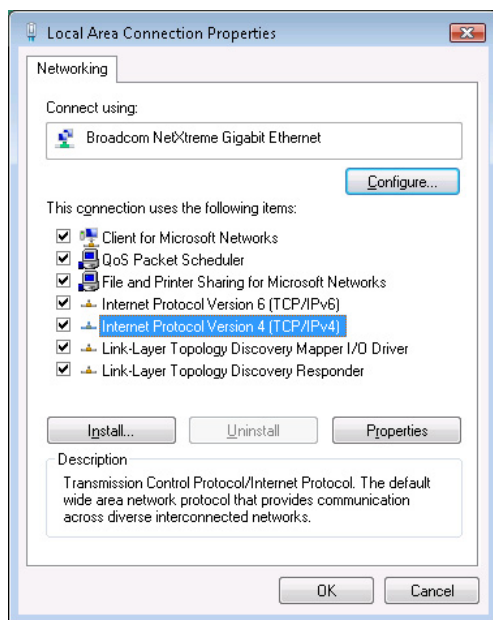

Figure 59 Local Area Connection Properties
- 2 In the '**Local Area Connection Properties**' dialog (see Figure 59) click the **Configure...** button to make sure the device is working properly.